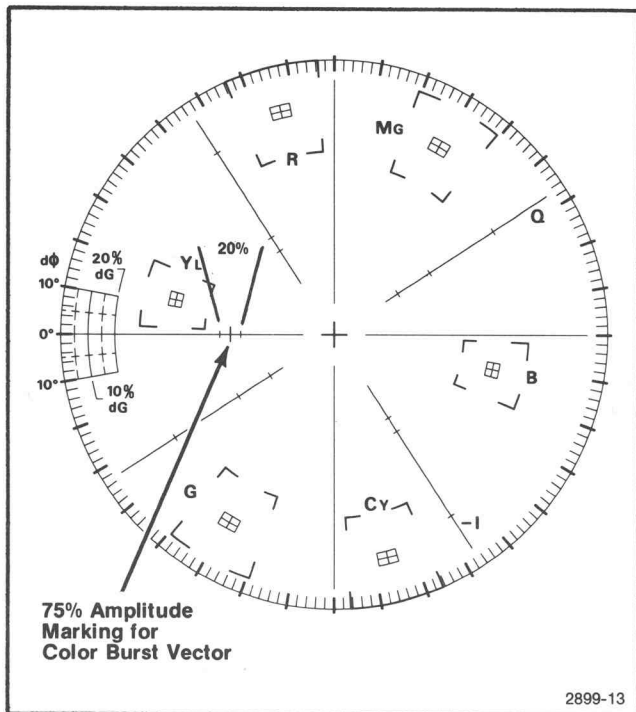
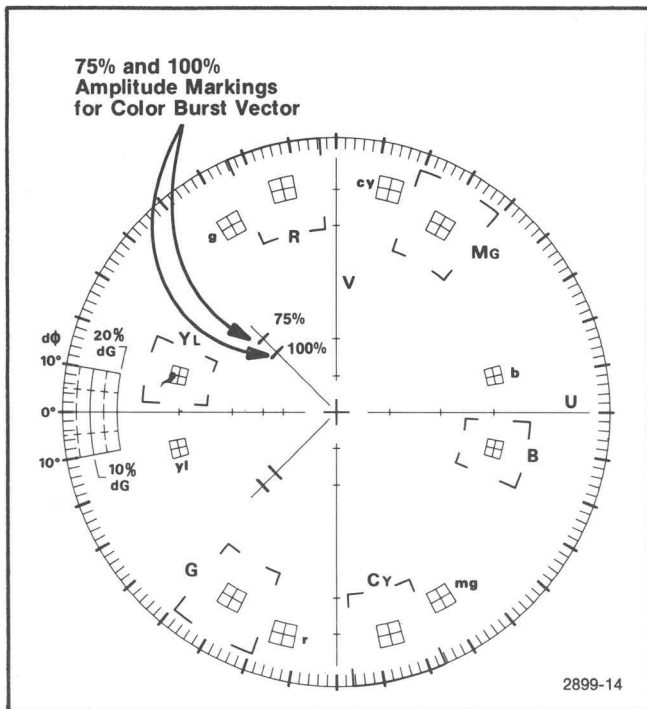

Fig. 2-13. 1420 burst markings.
Fig. 2-14. 1421, 1422 burst markings.
Saturation is the degree to which a color (or hue) is diluted by white light in order to distinguish between vivid and weak shades of the same hue. For example, vivid red is highly saturated and pastel red has little saturation. Using the Vectorscope, saturation is the radial distance from the center (where zero saturation exists) to the end of the color vector where 75% or 100% saturation exists for a particular color. If burst vector amplitude corresponds to the 75% saturated marking (see Fig. 2-13 for NTSC and Fig. 2-14 for PAL and PAL-M), the colors are 75% saturated. If burst vector amplitude corresponds to the 100% marking, the colors are 100% saturated. The 100% markings are shown only on the 1421 and 1422.
**Decoding.** To recover the hue information, phase demodulators are employed in the Vectorscope. The phase reference is the color subcarrier which is regenerated by an oscillator in the instrument. The oscillator is locked in both phase and frequency to the incoming color burst signal. The Vectorscope displays the relative phase and amplitude of chrominance signal on polar coordinates. To identify these coordinates, the vector graticule (see Fig. 2-13 for NTSC and Fig. 2-14 for PAL and PAL-M) has points which correspond to proper